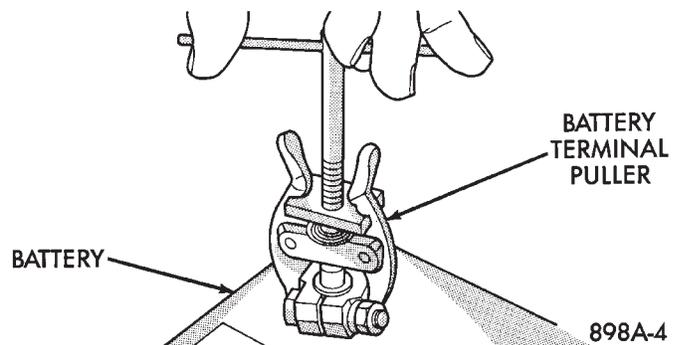

Fig. 2 Remove Battery Cables
(1) Make sure ignition switch is in OFF position and all accessories are OFF.
(2) Disconnect and remove the battery cable terminals from the battery posts. Remove negative cable first (Fig. 2).